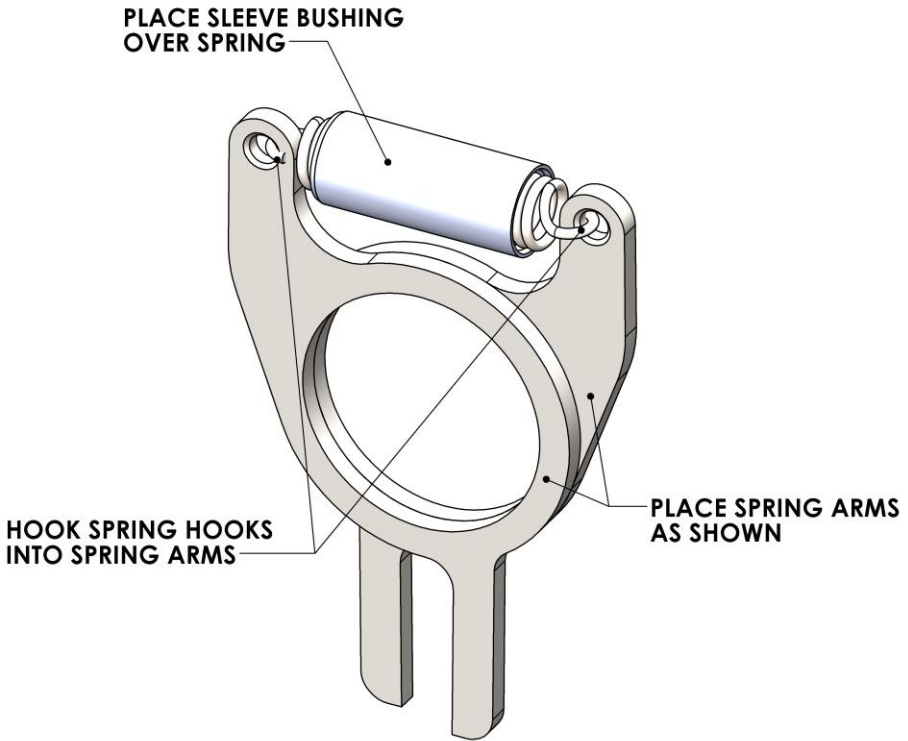

Figure 31: Arranging Spring and spring arm for replacement on new cam
29. Place the Sleeve bushing over the spring and put the spring hooks into the spring arm retention holes as shown in Figure 31.
30. Ensure all the components are arranged and oriented as shown in Figure 31.